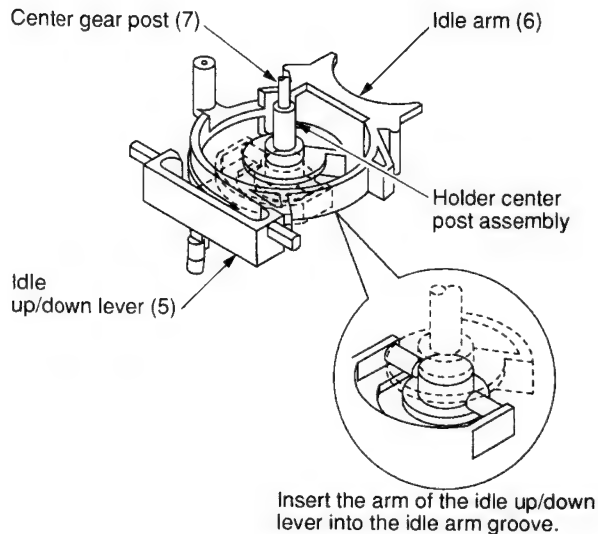

Fig. 6-31-2
- Stop ring (1) is impossible to use again.
- When mounting the parts, take care of the notice shown in Fig. 6-31-2.